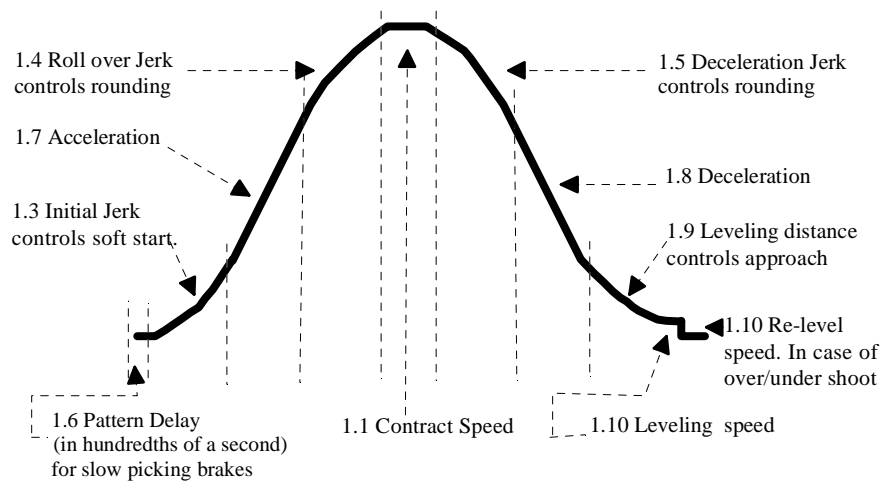

FIGURE I.4.1
The speed profile drawing, Figure I.4.1 below, provides information, at a glance, of the parameters involved for the adjustment of the elevator ride. Please use as reference.
I.4.2. Make a series of test runs: up one floor, then down one floor; then a multiple floor run up, then down. At every run adjust, as necessary, any of the speed curve parameters depicted on figure I.4.1 below. Refer to SDI's manual drawing "SDI SUBMENU 1", at end of SDI manual, for quick reference about "navigating" through program variables, submenu 1. If car vibrates, check encoder mounting and wiring, if correct, reduce ASR Gain adjustment, parameters C5-01 (refer to page 28 in the drive manual). As soon as car is able to run at top speed, perform step I.4.3 below, and then repeat this step as necessary.